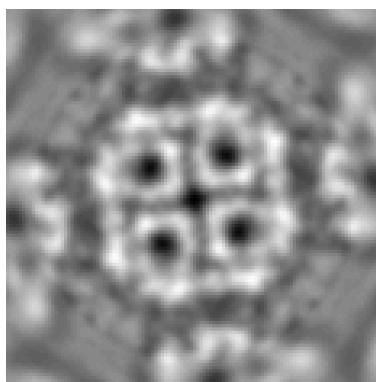

Figure 58: Map after ML
13. **Before running the script click on save in the header panel, otherwise your parameter will not be applied.** After setting up and saving the ML related parameters, you click on *ML-2D* in the Standard Scripts panel to launch the process. You can view the results by clicking on reference maps listed in the Images panel. Figure 58 shows our 2D maximum likelihood results.